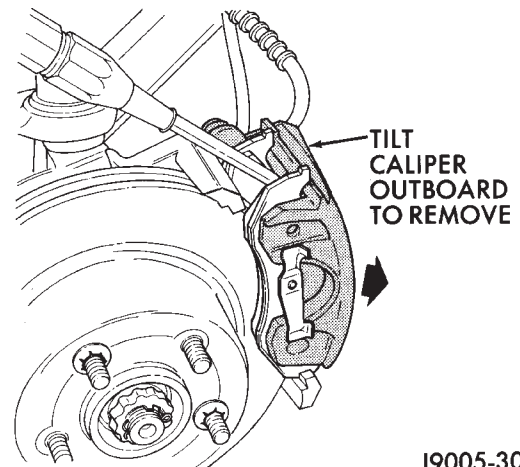

Fig. 5 Tilting Caliper Outward
(5) Tilt top of caliper outward. Use pry tool if necessary (Fig. 5).